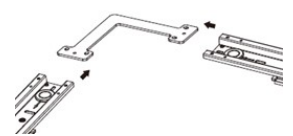
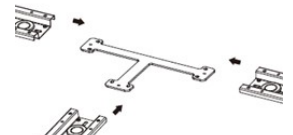
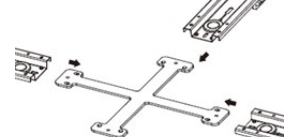

Fig 3.
Fig 4.
Fig 5.
5. The Installation of the L (Fig 3.), T (Fig 4.) & X (Fig 5.) couplers are as shown